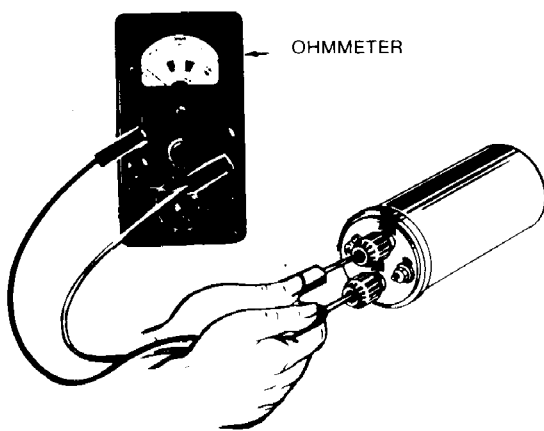

FIGURE 19. COIL TEST
3. Change resistance setting on ohmmeter. Place ohmmeter leads inside of spark plug cable holes (Figure 19). Secondary resistance should read 12,600 - 15,400 ohms.